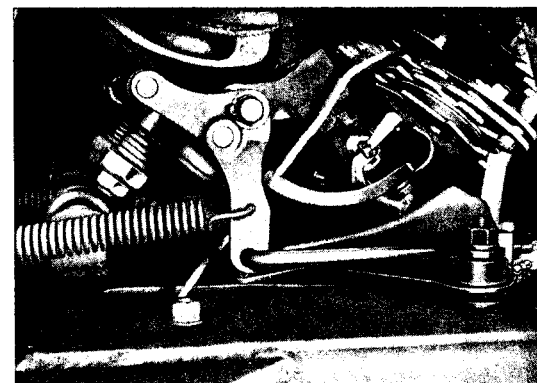

Fig. 35
The bill hook jaw cam closes the jaw of the bill hook as shown in fig. 35 to ensure that ends of the twine are firmly held during stripping of the knot. The grip of the jaw may be tightened or loosened by adjusting the pressure of the spring (F) fig. 34 which acts on the cam. Prior to any adjustment make sure that the jaw is free to move in the bill hook. If trouble is being met with in pulling both ends through the knot (or alternatively, one end through, and one end bowed) make small adjustments at any one time.